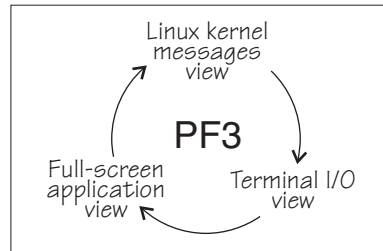

Figure 82. Switching views of the 3270 terminal device driver
The 3270 terminal device driver provides three different views. Use function key 3 (PF3) to switch between the views (see Figure 82).